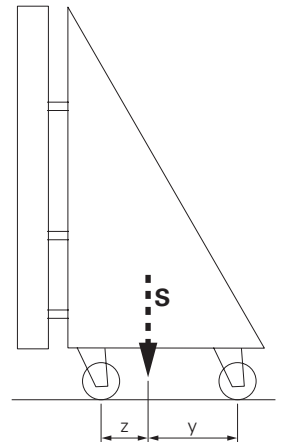

Fig. B4.05
- Plan the overall centre of gravity  $S$  in such a way that it lies between the castors. (Fig. B4.05)